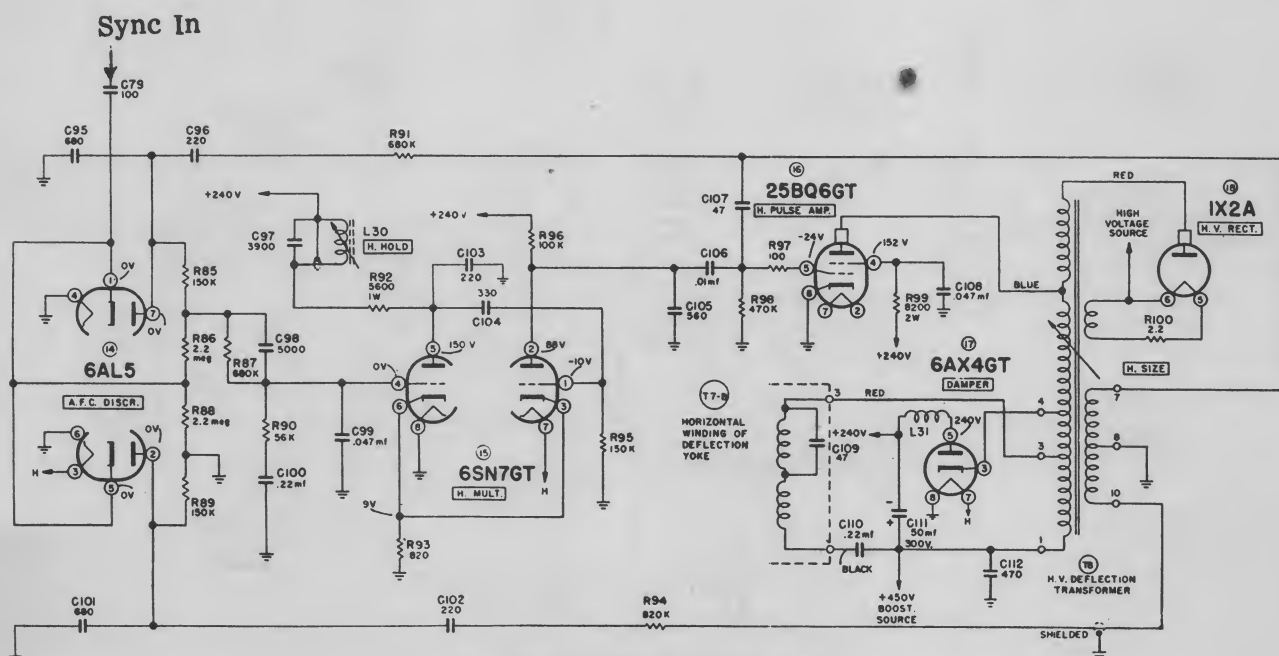
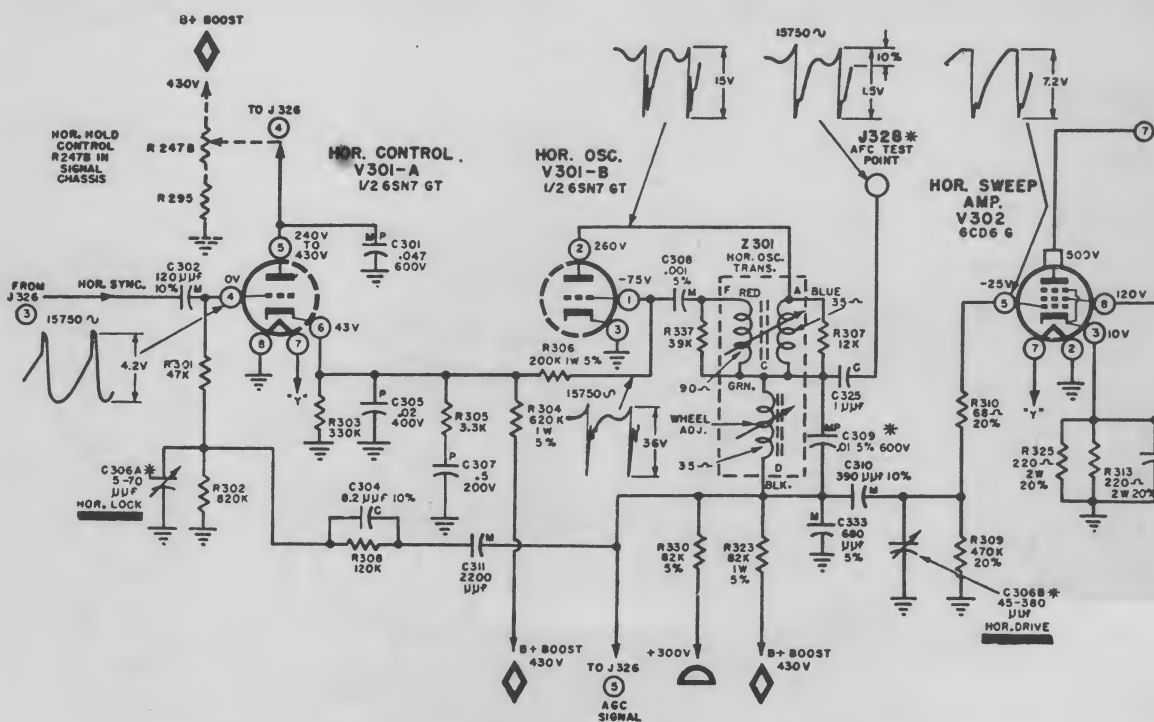

Fig. 5-7. Horizontal afc: Raytheon 17T11.
Fig. 5-8. Pulse width afc: DuMont RA162.
4. **DUO-DIODE PHASE DETECTOR OPERATING WITH A CATHODE-COUPLED MULTIVIBRATOR.** There are several variations of this control circuit. However, it may be identified by the fact that the two diodes receive three signals for comparison. Two of these are equal in amplitude, but 180 degrees out of phase. These may be (1) the horizontal sync pulses or (2) the horizontal sweep voltage. The third signal voltage is the horizontal sweep sawtooth under condition (1), or the horizontal sync pulse, under condition (2). Typical of this circuit is the system used in Raytheon 17T11 model (Fig. 5-7).
1. *CIRCUIT OPERATION.* The system used in the DuMont chassis RA162 is typical. Figure 5-8 shows the horizontal control tube, V301A (one half of a 6SN7) and the oscillator tube, V301B, which uses the other half of the 6SN7. The control tube compares the frequency of the horizontal oscillator with that of the incoming sync pulse. If there is a frequency difference, a d-c correction voltage is developed at the cathode and applied to the grid of the blocking oscillator, increasing or decreasing its frequency as necessary.
This circuit has four controls. The horizontal hold is the front panel control, R247B; the horizontal coarse frequency control, slug of Z301; the horizontal phasing control, or "Wheel Adj.," which should be set with an oscilloscope for the waveform at J328, as shown in Figs. 5-8 and 5-12; and the horizontal locking range, C306A.
d. *Improper horizontal phase* does not cause much difficulty until it becomes excessive. This is due to the fact that a slight condition can be hidden behind the edges of the mask. The reactance type of horizontal afc circuit shown in Fig. 5-5 incorporates a phase adjustment in the oscillator coil, T108. Improper phase can be caused by a defect in C168 or in winding D-E-F. However, adjustment of the phasing slug is attempted first. In other types of afc circuits the comparison pulse fed back from the sweep circuit can be at fault. Some origin points of comparison pulse are illustrated in Fig. 5-7, winding 7-8-10 of T8, the horizontal deflection transformer; and in Fig. 5-8, tap D of Z301, the horizontal oscillator transformer. A phasing defect may be localized to any component from the pulse source through the shaping network to the 6AL5 plates in Fig. 5-7, or to the grid of V301A in Fig. 5-8. Other causes for phasing defects include improperly shaped sync pulses due to sync circuit defects, and slow retrace time due to horizontal output circuit constants. Slow retrace time may be caused by improperly matched deflection transformers or yokes, excessive capacity across the transformer, stray pick-up, or long yoke leads.